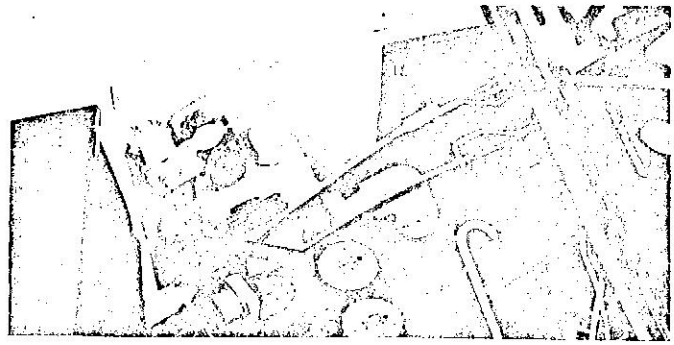

Figure 6. Choke and Throttle Cable Routing
8. Mount the hydraulic lift valve and panel assembly to the right side of the tractor dash with the three new 1/4" self-tapping screws furnished. Note the routing of the choke and throttle cables in Figure 6.